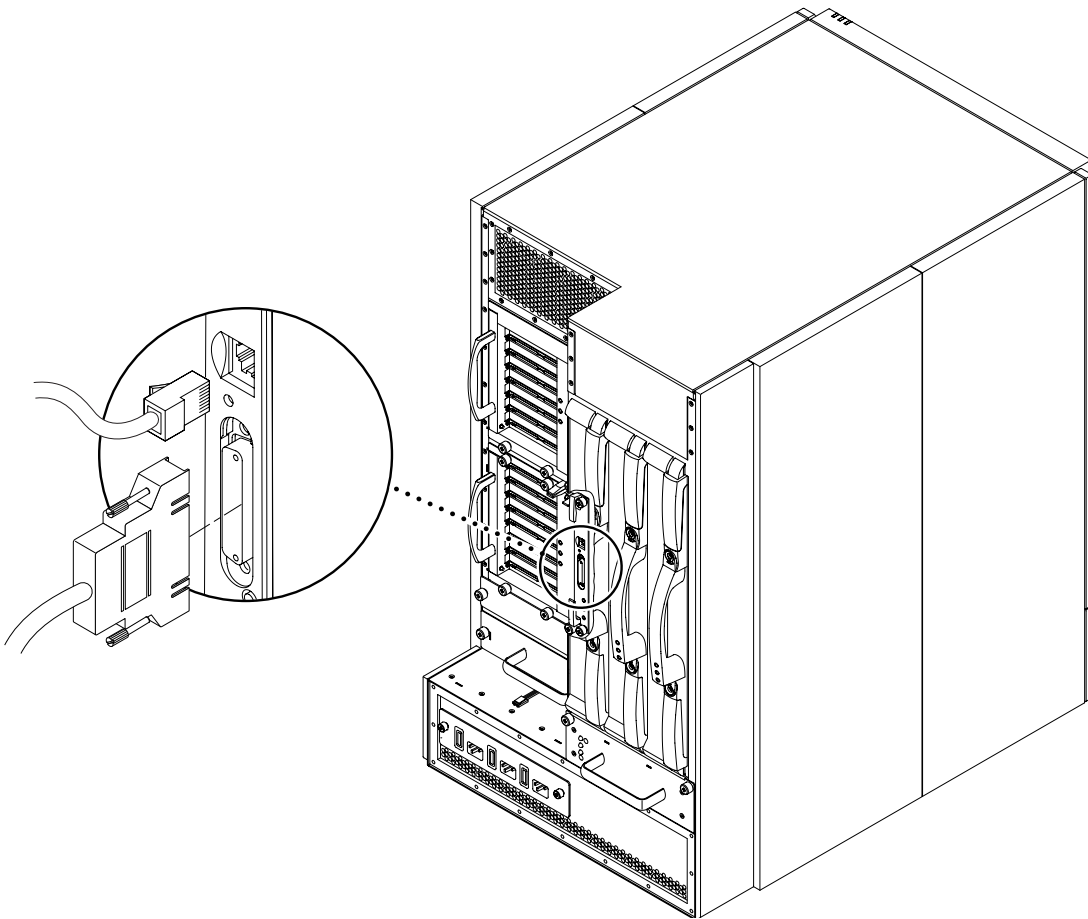

FIGURE 3-6 Primary System Controller Connections on the Sun Fire E4900 System
1. Connect one end of the serial cable (TTYa or Null modem) to the serial port on the primary System Controller board (FIGURE 3-6).
1. Connect one end of the shielded Category-5 Ethernet cable to the RJ-45 Ethernet port on the primary System Controller board (FIGURE 3-6).